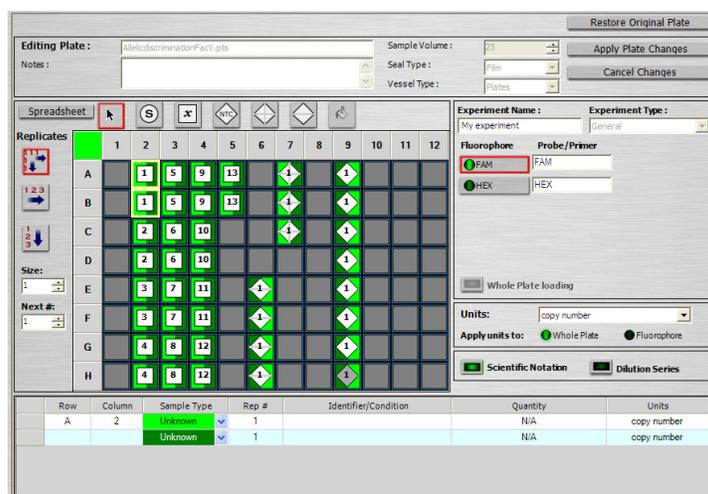

Fig. 6.63. The Edit Plate Window.
3. A modified version of the Plate Setup Editor will open (Figure 6.63). In this modified window, you cannot add fluorophores to or remove fluorophores from the fluorophore list. Nor can you add a previously defined fluorophore or remove a previously defined fluorophore from a well.